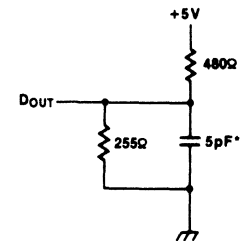

Figure 2. Output Load (for  $t_{HZ}$ ,  $t_{LZ}$ ,  $t_{WZ}$ , and  $t_{OW}$ )
- Transition is measured  $\pm 500mV$  from steady state voltage with specified loading in Figure 2. This parameter is sampled, not 100% tested.
4. Transition is measured  $\pm 200mV$  from steady state voltage with specified loading in Figure 2. This parameter is sampled, not 100% tested.